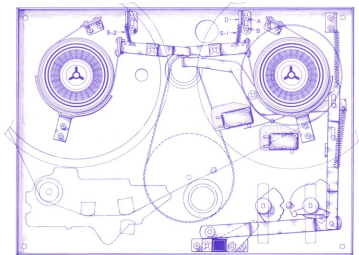

Fig. 6-5
To regulate tension, change the position of the suspended springs (S1 and S2 in Fig. 6-5) or loosen screws (A) (B) and regulate position of the spring suspension metal fitting (D).